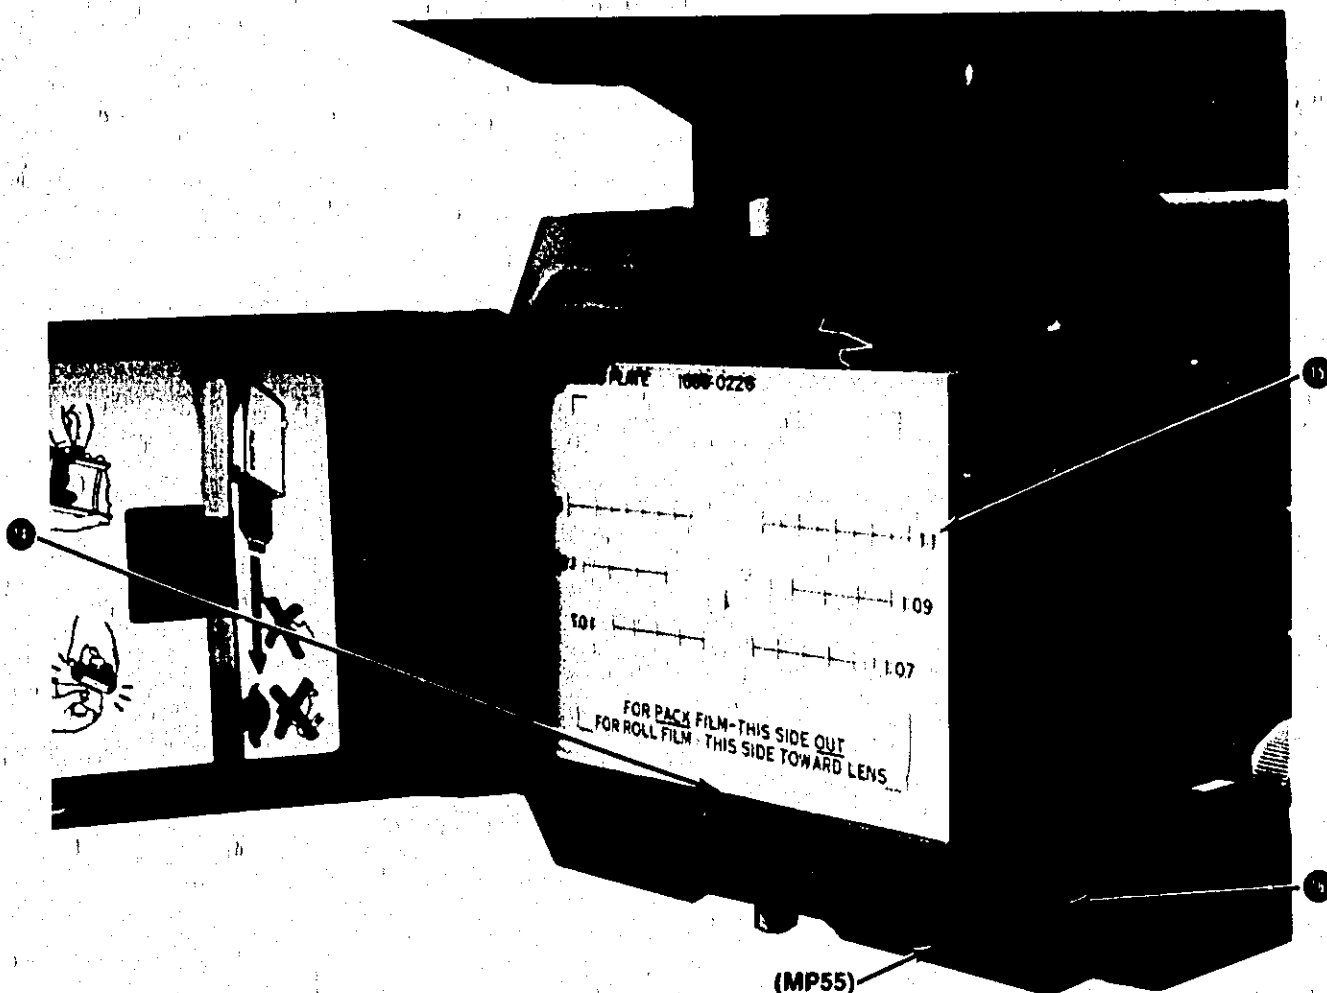
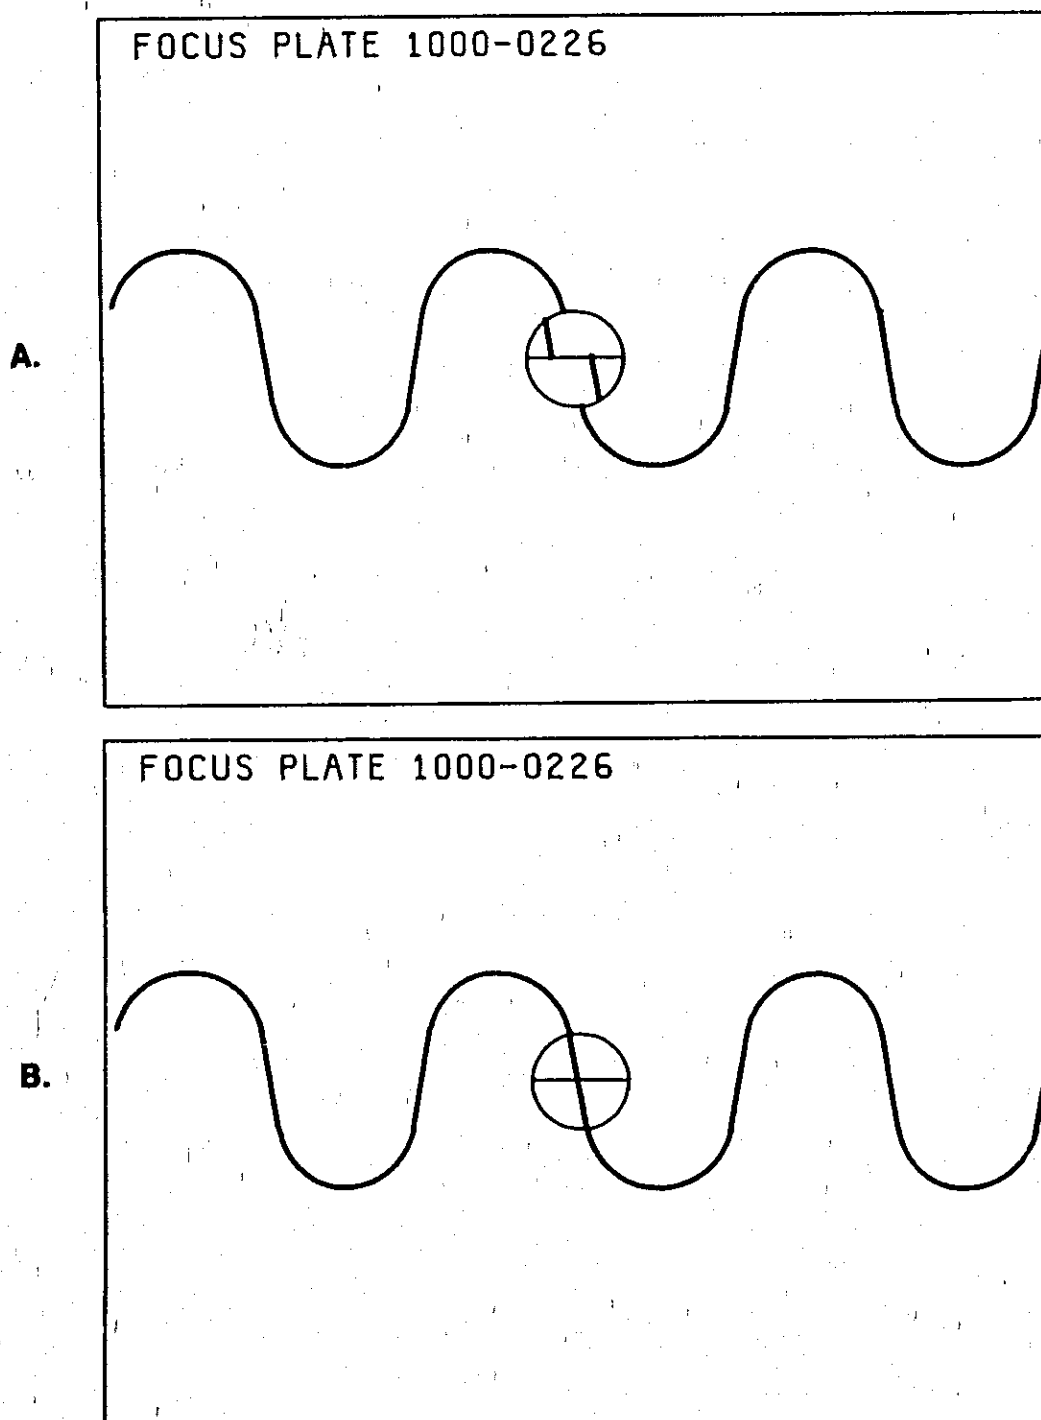

Figure 3-2. Camera Back
Figure 3-3. A. Waveform Out of Focus
- d. Press SHUTTER bar ⑩ to open shutter.
e. Verify that focus plate ⑭ is flat against film frame (as shown in figure 3-2) with proper side toward lens. Adjust FOCUS control ⑪ until vertical graticule line is no longer split when viewed simultaneously through top and bottom of split-image spot in center of focus plate (See Figure 3-3).
f. When focus adjustment is complete, tighten FOCUS LOCK knob ⑫ and recheck focus. Remove focus plate, close shutter, and reset all camera controls to normal.
- b. Remove focus plate from storage compartment ⑧ on bottom of camera.
- c. Open camera back and insert focus plate (see figure 3-2).